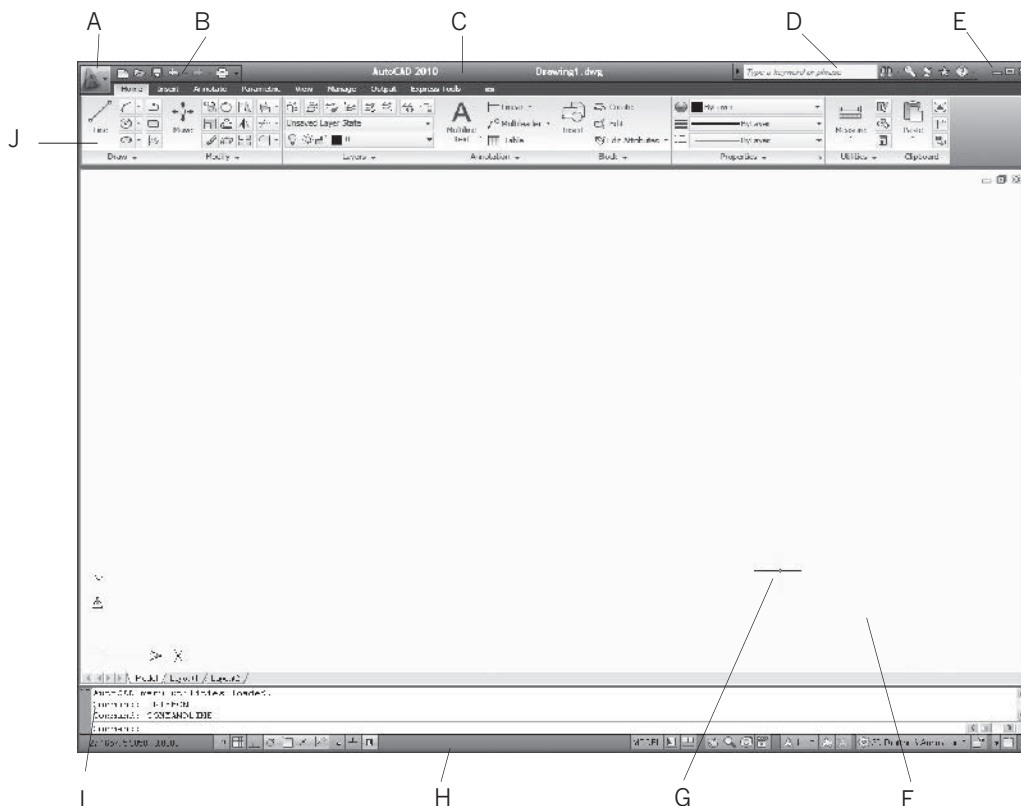

Fig. 2-5
5. Write the names of items A through J in Fig. 2-5.